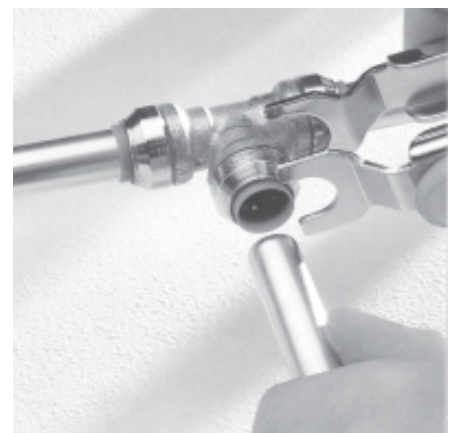

Fig. 5
5.2 Disconnecting a joint (Fig. 5).